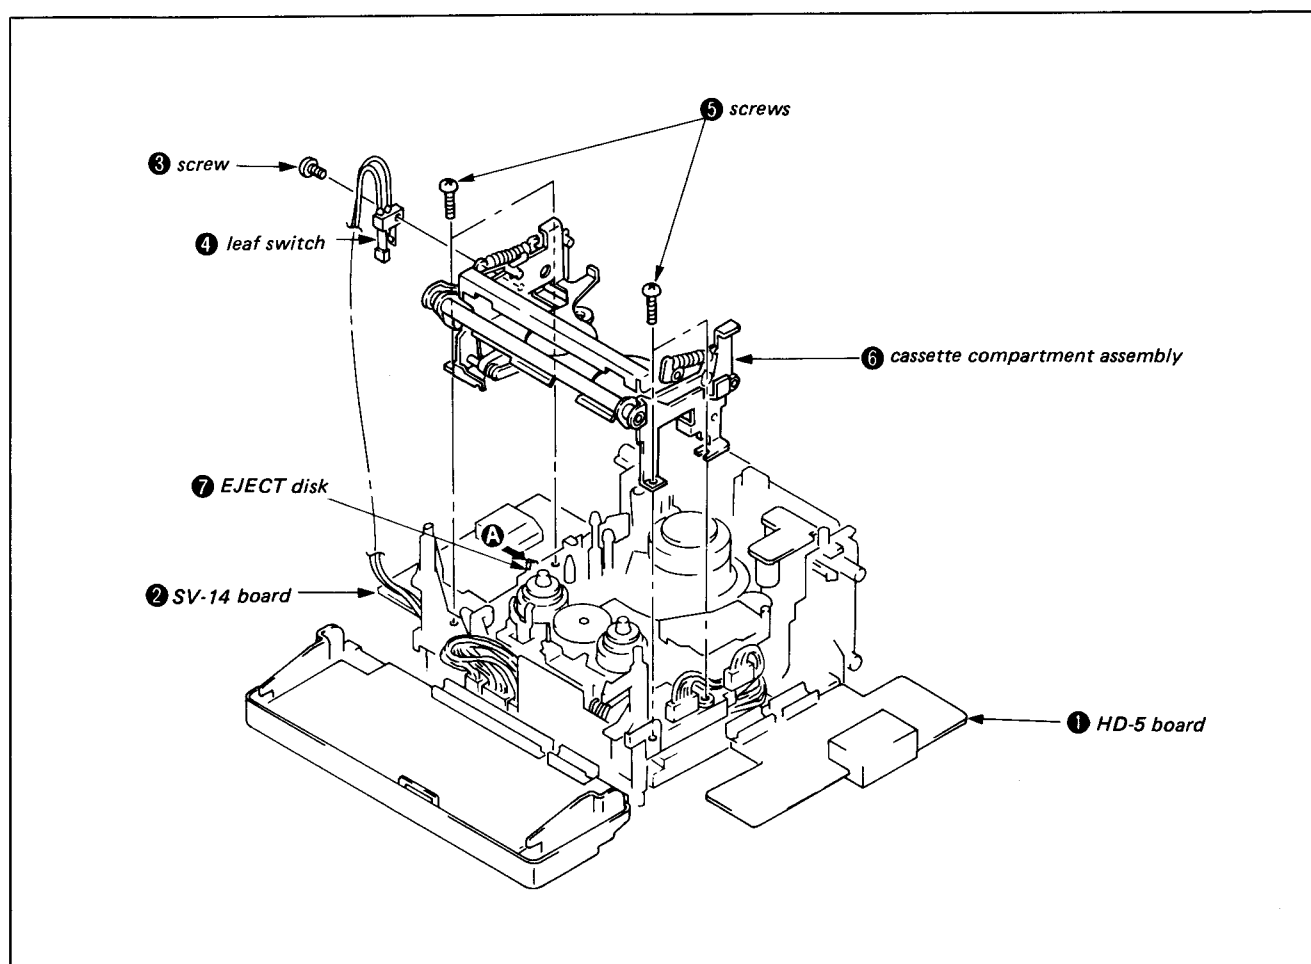
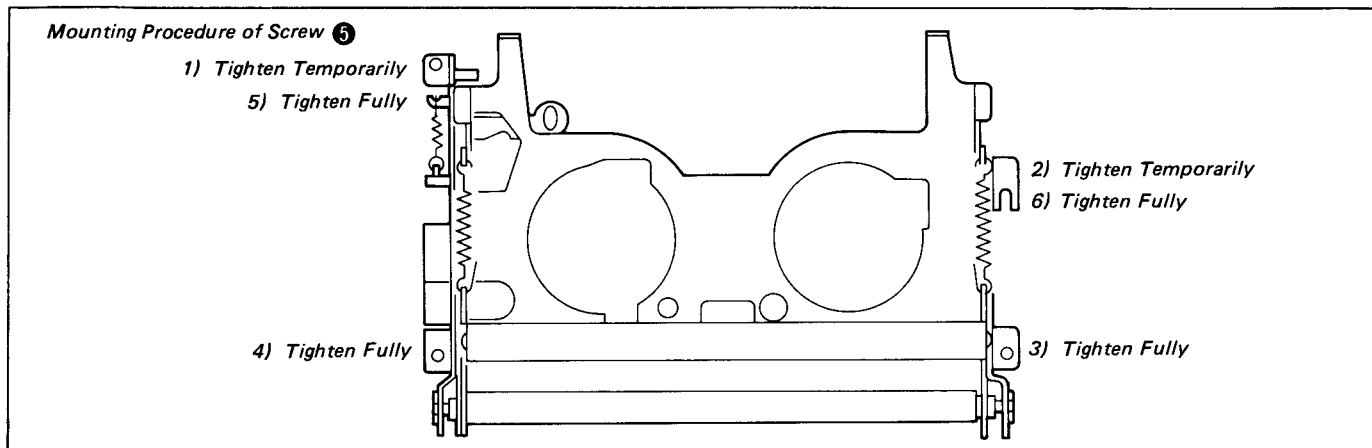

Fig. 1-1
Fig. 1-2
- 1) Remount the cassette compartment assembly ⑥ and tighten the screw ⑤ referring to Fig. 1-2. (Push the eject disc ⑦ toward the arrow A to avoid the disc hitting the cassette compartment assembly.) (See Fig. 1-1.)
- 2) Remount the leaf switch (S901) ④ with a screw ③ . (See Fig. 1-1.)
- 3) Remount the SV-14 Board ② . (See Fig. 1-1.)
- 4) Remount the HD-5 Board ① . (See Fig. 1-1.)